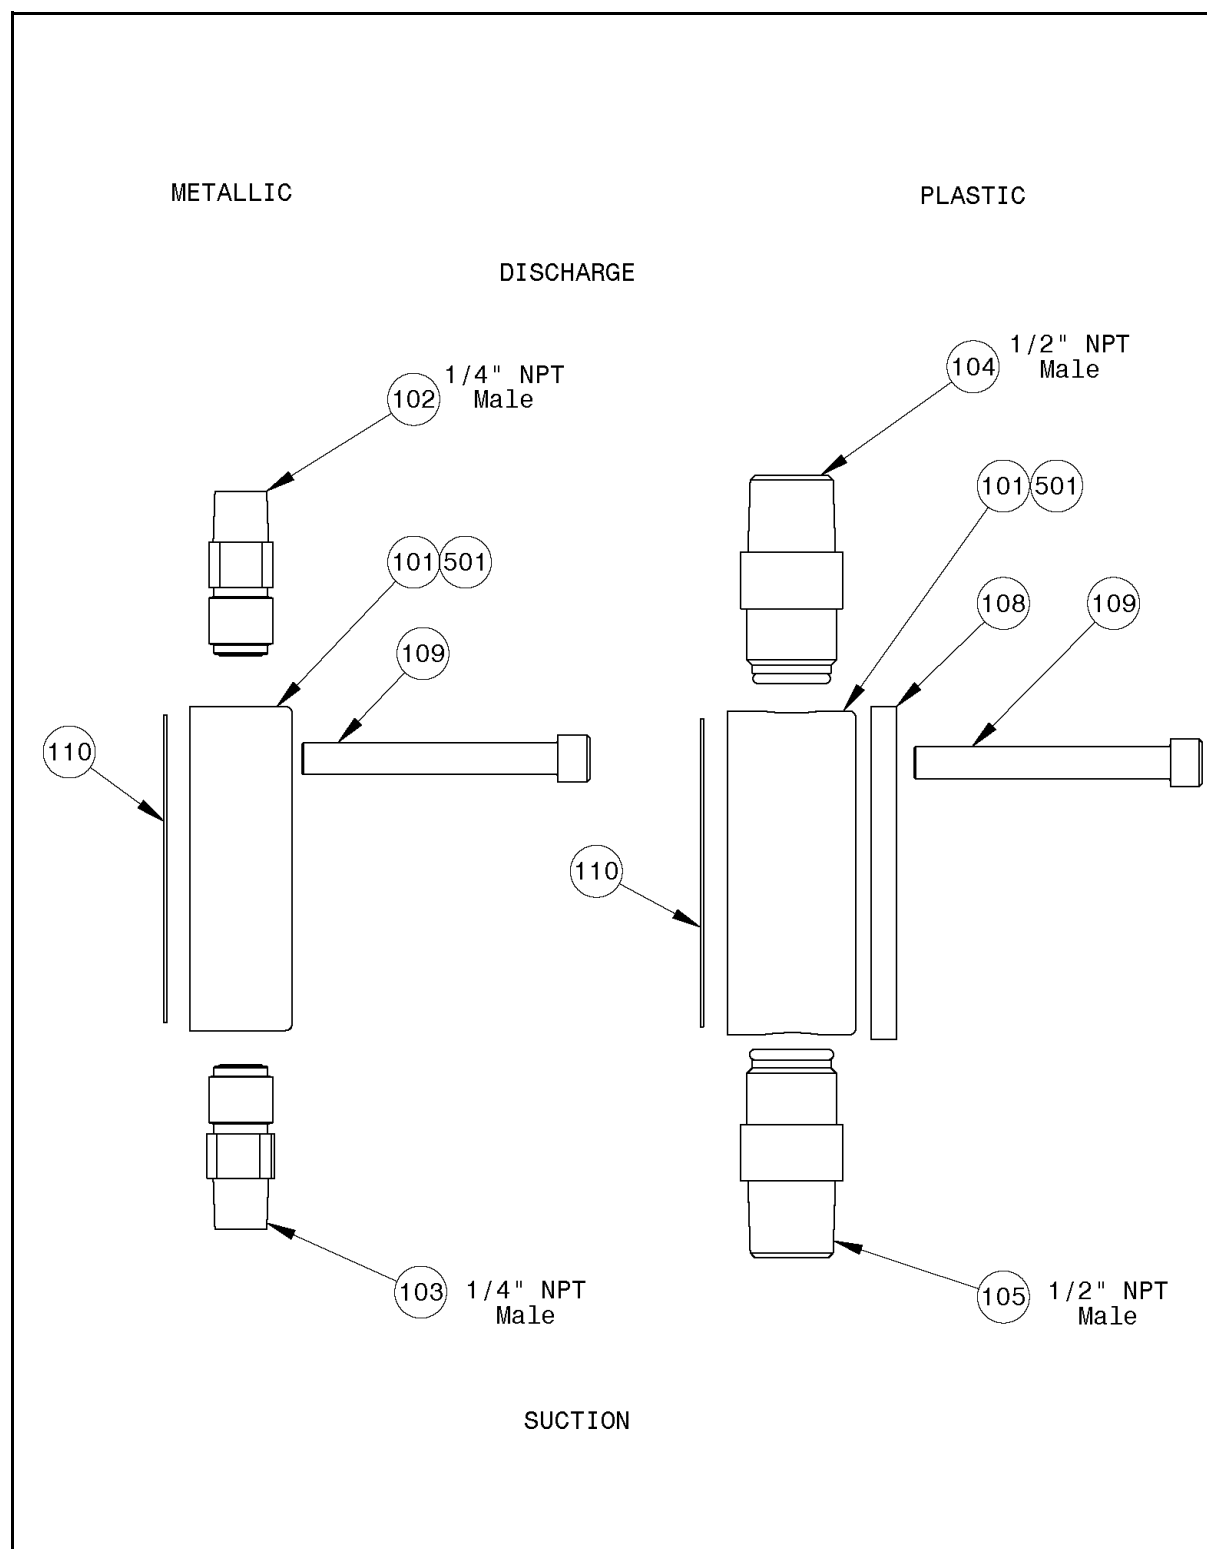
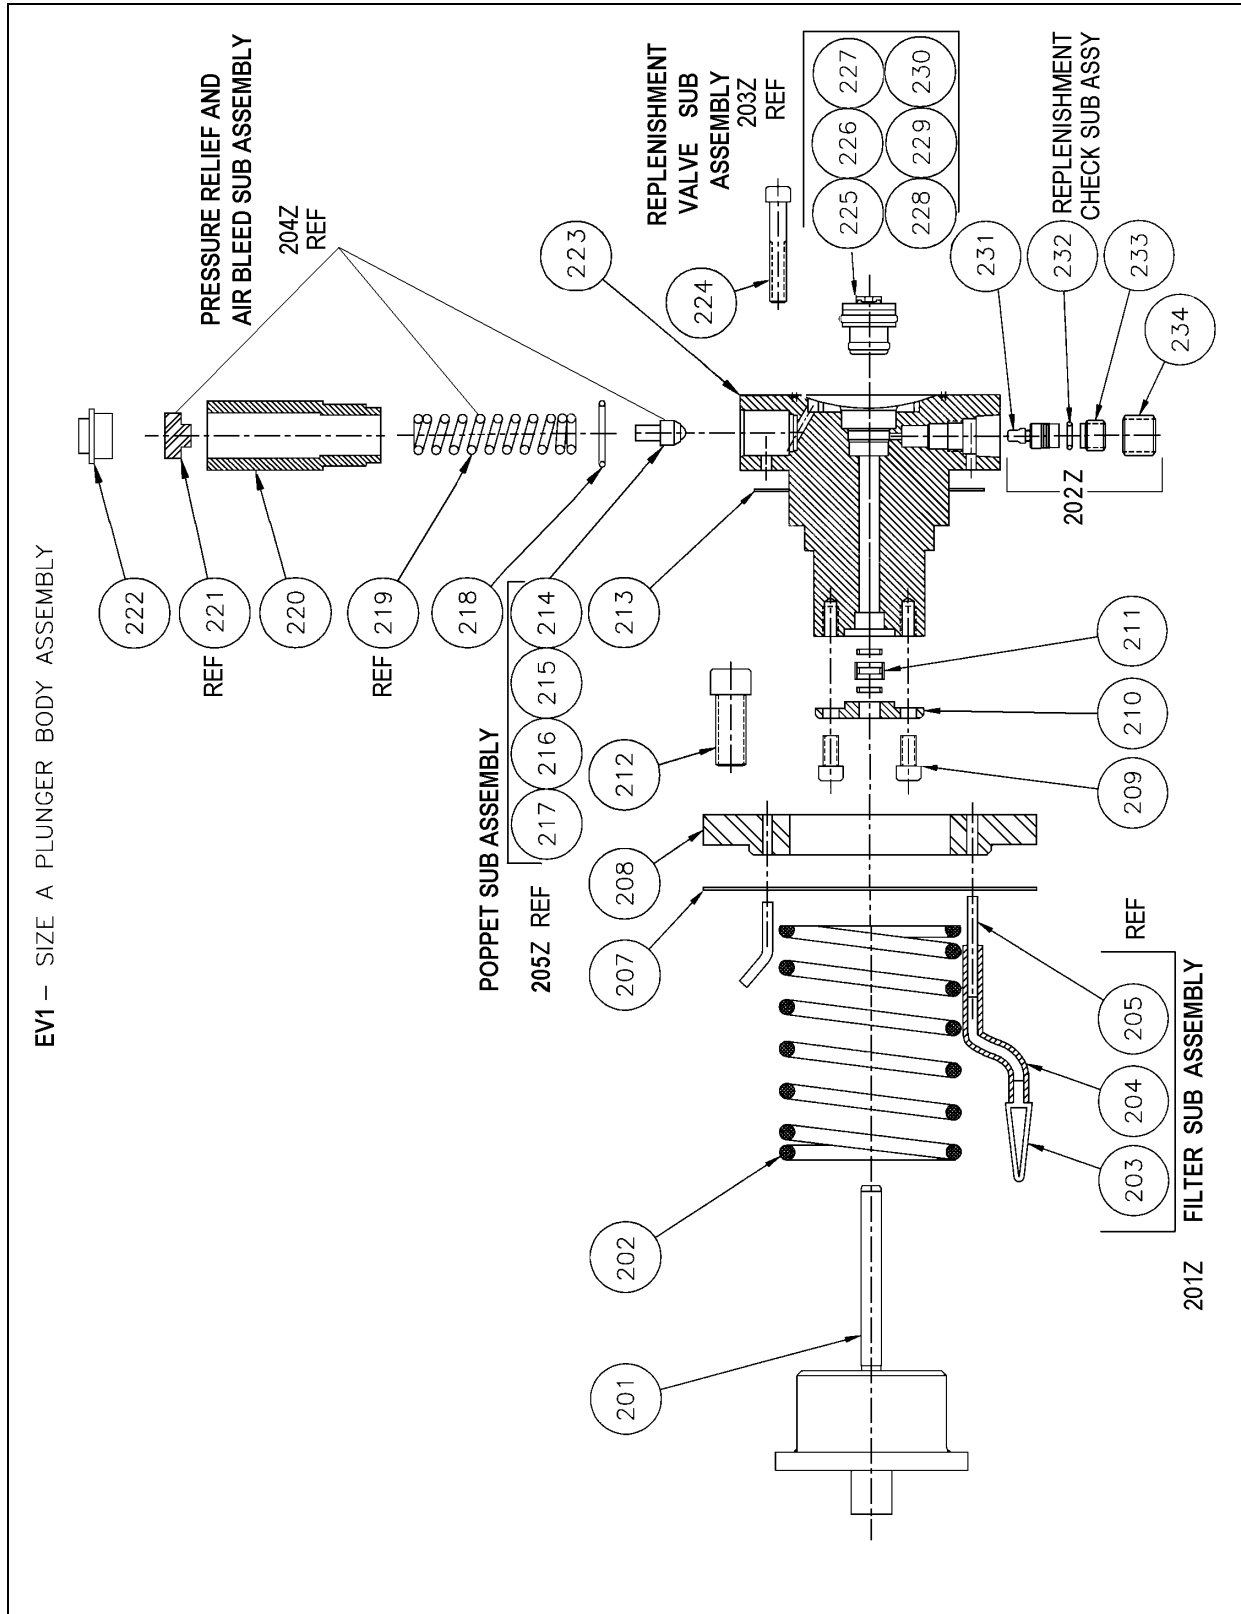
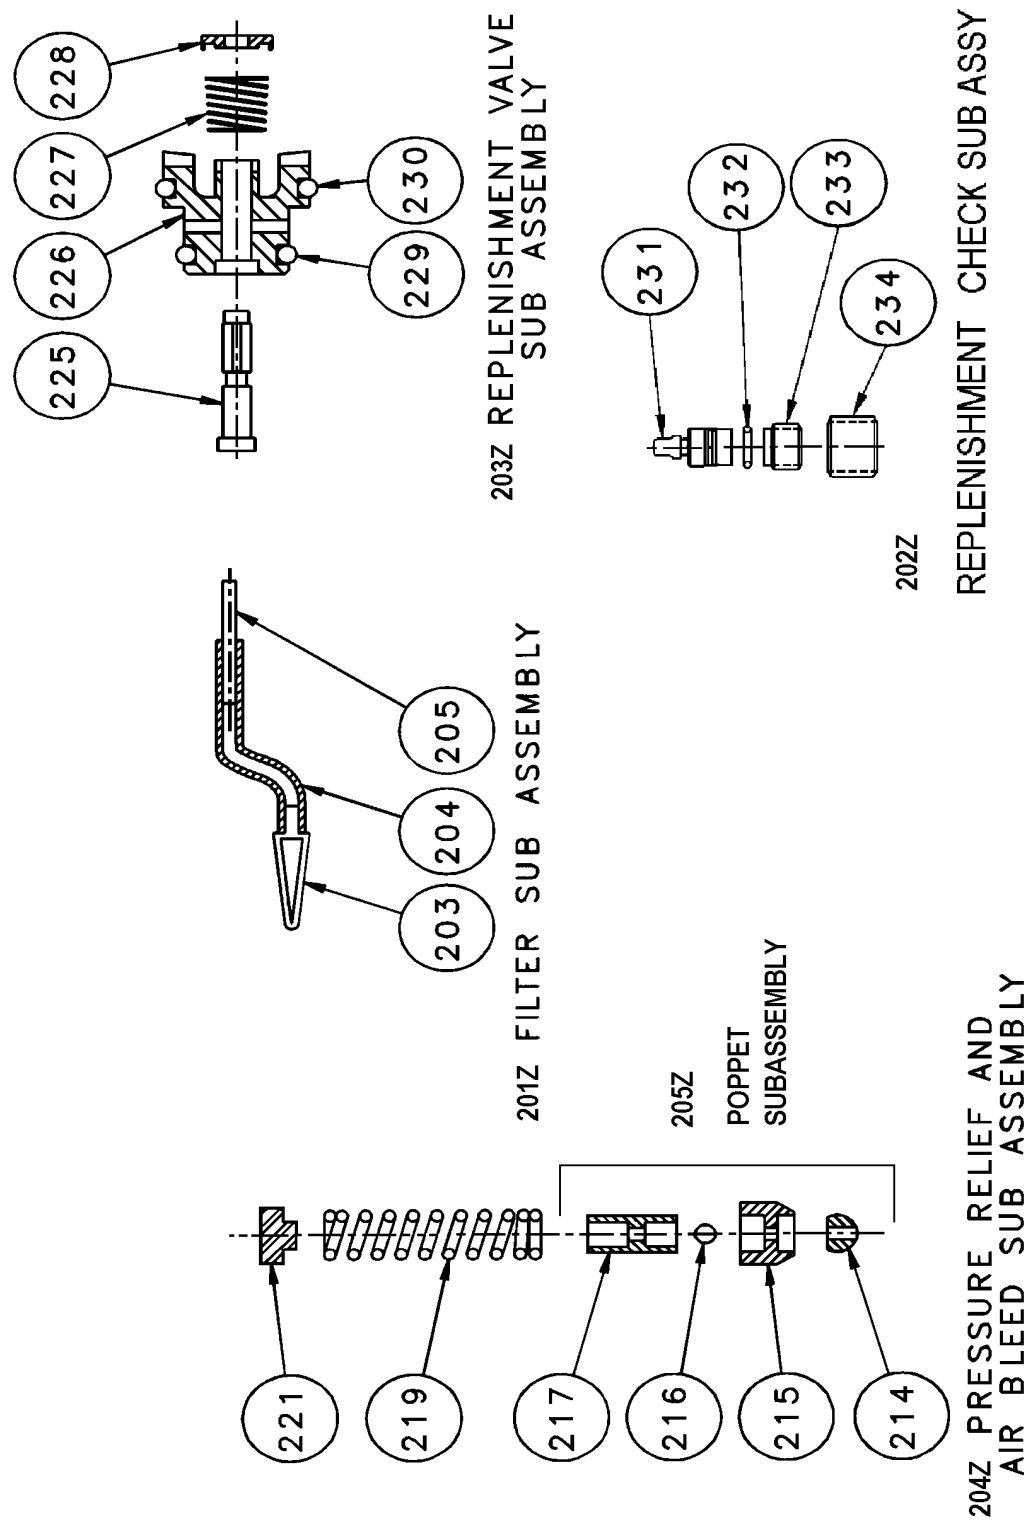

Figure 39. Liquid End Assembly, Size A.
Figure 43. Plunger Body Assembly, Size A.
Figure 44. Internal Hydraulic Subassemblies, Size A.
6.3 LIQUID END ASSEMBLY COMPONENTS, SIZE A (316SS, Alloy 20, Hast C, PVC, & KYNAR) (FIGURE 39)
6.4 LIQUID END ASSEMBLY, SIZE A (FIGURE 39)
PLUNGER BODY REBUILD KITS EV1 SIZE A (SEE FIGURES 39, 43, & 44) (Contains items: 110, Figure 39; 207, 211, 213, 218, 232, Figure 43 & 203Z, 203, 214, 215, 216, 217 Figure 44)
6.8 PLUNGER BODY ASSEMBLY COMPONENTS, SIZE A (FIGURE 43)
6.9 INTERNAL HYDRAULIC SUBASSEMBLIES, SIZE A (FIGURE 44)
6.10 PLUNGER BODY ASSEMBLY, SIZE A (FIGURE 43)
*** Complete Plunger Body Assembly Contains 5 Subassemblies (Figure 44) and All Plunger Body Assembly Components (Figure 43).**